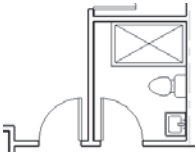

Figure 4.112
7. Using the same method, place the sink (Sink-Hand) and toilet (Domestic-Low profile). The completed bathroom looks like Figure 4.112.